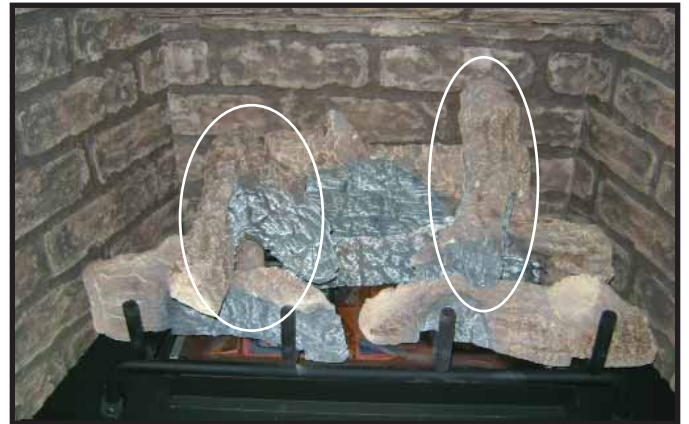

Figure 3.5 Remove Top Two Logs
4. Remove the two top logs from the log/grate assembly. These logs are not secured to the assembly with screws. See Figure 3.5.